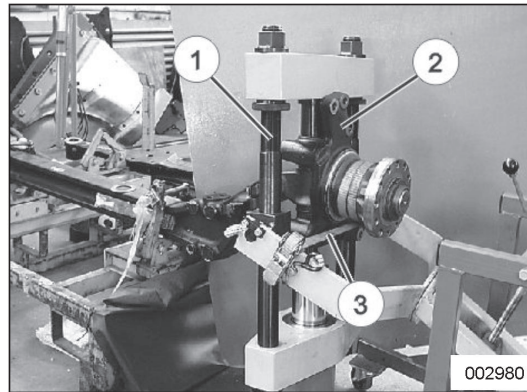

**Figure 26: Steering knuckle assembly (maintenance-free king-pin)**
**To remove the king-pin- Figure 26**
5. Lever off king-pin end caps (1) and (8).
6. Remove snap rings (7) and (16).
7. Remove plugs (2) and (10).
8. Remove O-rings (6) and (15).